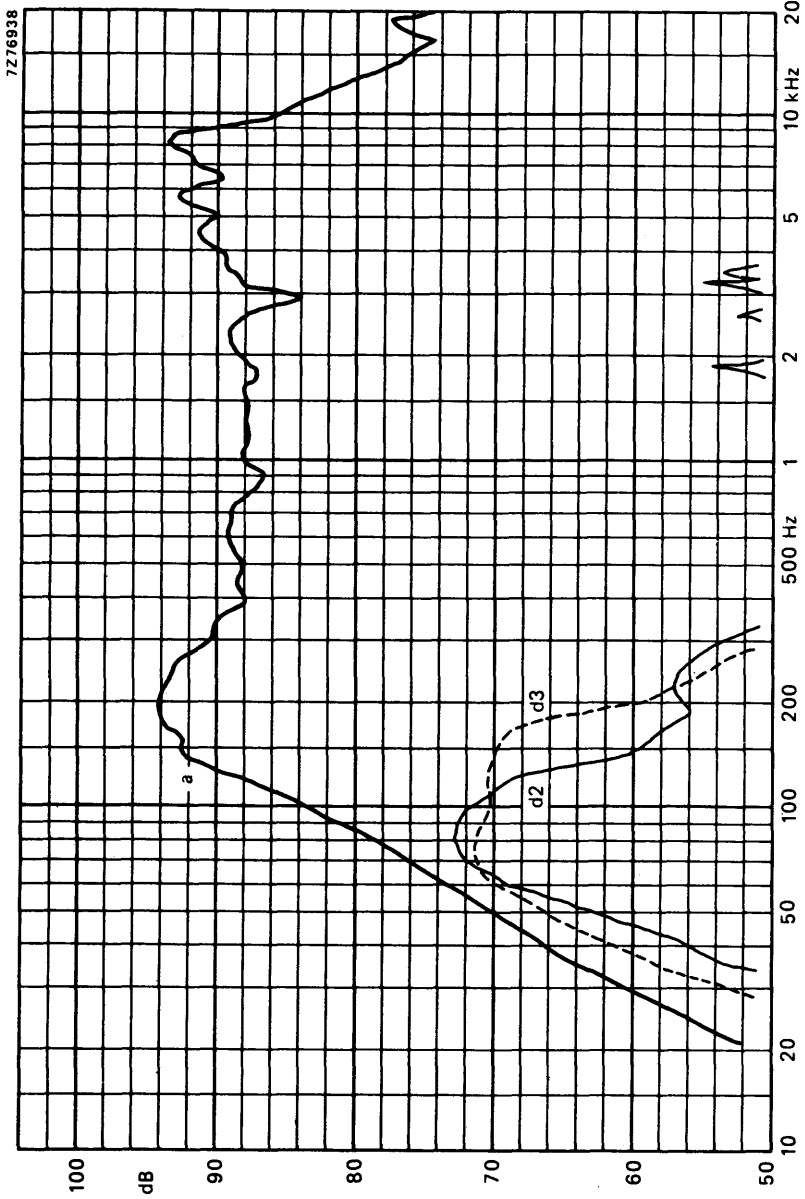

Fig. 2.
**FREQUENCY RESPONSE CURVE (see Fig. 2)**